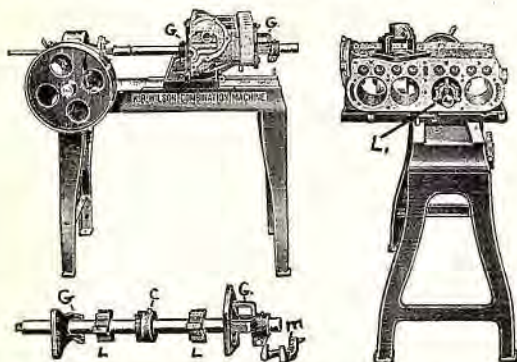

Fig. 27. Combination machine being used to rebore cylinders.
A clearance of .003" (or .004") must be allowed between piston and cylinder. Take the piston No. 1 which was chalk marked 3.779". By adding the specified amount for clearance, we obtain 3.779" + .003" = 3.782". Therefore the cutter (C, Fig. 27) must be set to bore the No. 1 cylinder 3.782". Take No. 2 piston, chalk marked 3.777". Allowing .003" for clearance, we obtain 3.777" + .003" = 3.780". Therefore the cutter when boring this cylinder, must be set to bore the No. 2 cylinder to 3.780" for this piston, and follow the same procedure for No. 3 and 4 cylinders.
The cutter (C, Fig. 27) can be adjusted by slightly loosening the two set screws on the cutter head with a special set screw wrench and turning the adjusting screw with a screw driver until the setting of the cutter corresponds with the reading on the special micrometer. The set screws are then tightened and the cutter again checked to make sure the adjustment was not altered when the set screws were tightened.
After correctly adjusting cutter the boring bar is placed in the cylinder, and is located by means of two (two-piece) tapered locating plugs (L), as shown in Fig. 27. One of the plugs at each end of the cylinder on the boring bar insures perfect centers.